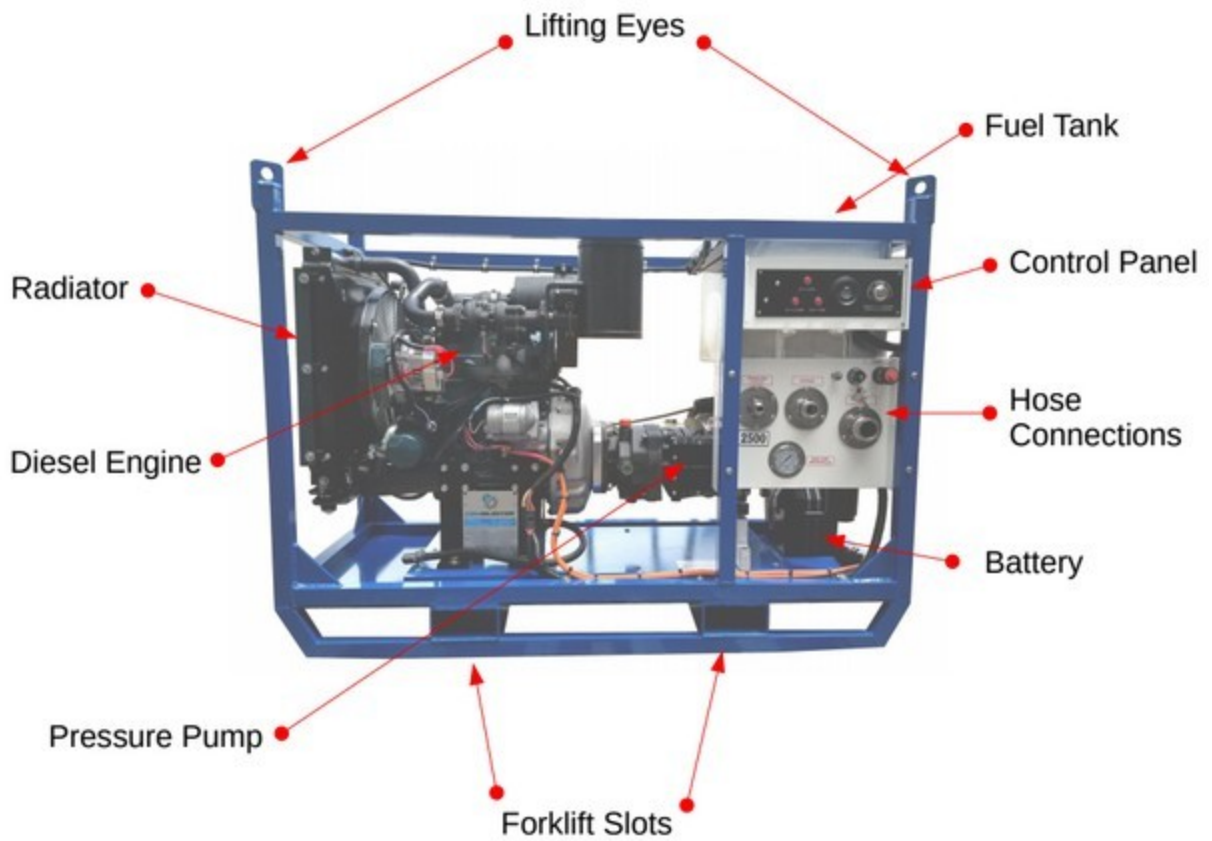

Figure 2.2 – CaviBlaster™ 1625-D General Features
- 6) Connect the bypass hose (See Figure 2.2).
- 7) Connect the pressure hose (See Figure 2.2).
1. Push IN the Emergency Stop button located on the front control panel (See Figure 2.2).
The feed water inlet connection is located on the front control panel of the CaviBlaster™ 1625-D (see Figure 2.2). Two water supply conditions are acceptable for the CaviBlaster™ Power Unit.